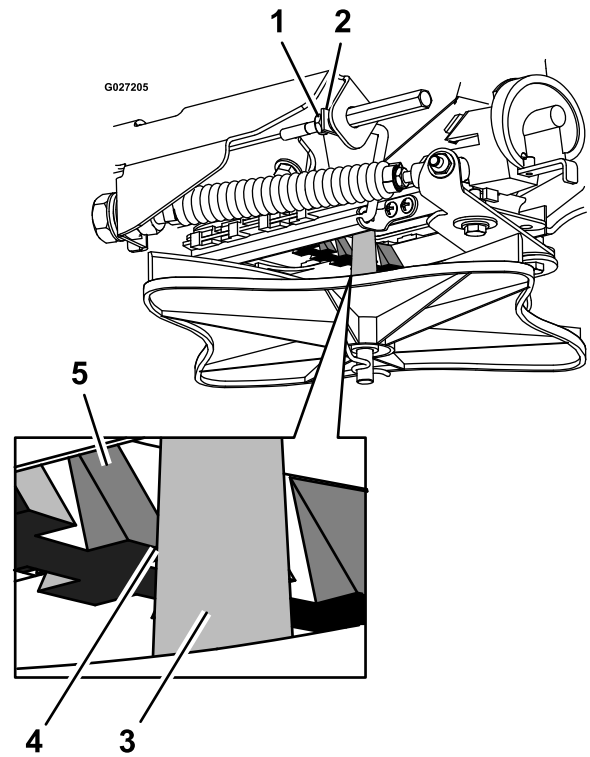

Figure 92
5. Loosen the jam nut at the end of the pattern-control cable (Figure 92).
6. Pull the linkage rod until there is 1/8 inch (3.2 mm) gap between the ramp tooth and the impeller shaft (Figure 92).
7. Tighten the jam nut (Figure 92).